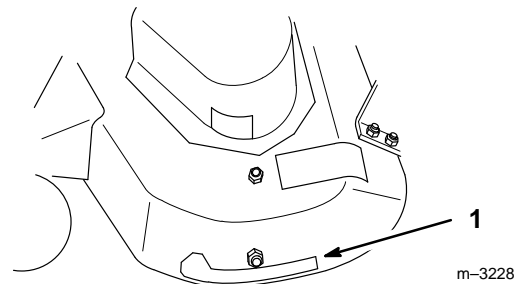

Figure 5
1. Install Recycler® decal to left side of mower as shown (Fig. 5).